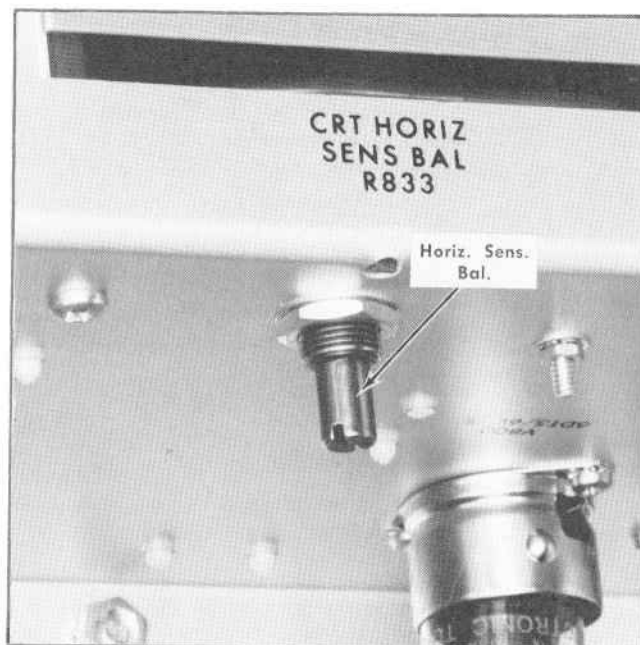

Fig. 6-12. Location of Horiz. Sens. Bal. adjustment (step 8f).
g. Set the Horiz. Sens. Bal. adjustment R833 (see Fig. 6-12) so that the sensitivity of the two beams is the same (See Fig. 6-10). (At this point in the calibration, the two beams are being matched to each other; do not try to make the time markers coincide with the graticule lines.)